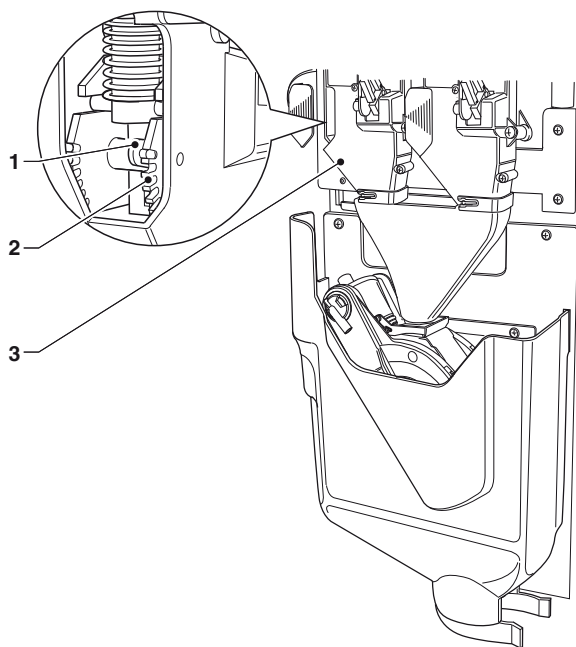

Fig. 23
**Furthermore, by fully rotating the lever upwards, it is possible to release the tooth from the notch on the dose adjustment device (see Fig. 23)**
If the grinding grade needs to be changed, adjust it using the relevant knob on the grinder (Fig. 23), and more precisely:
The device for automatic adjustment of the blades (Figure 23) allows for the quality of the dispensed beverage to stay constant, by compensating for variations due to the product, the environment and wearing of the blades.